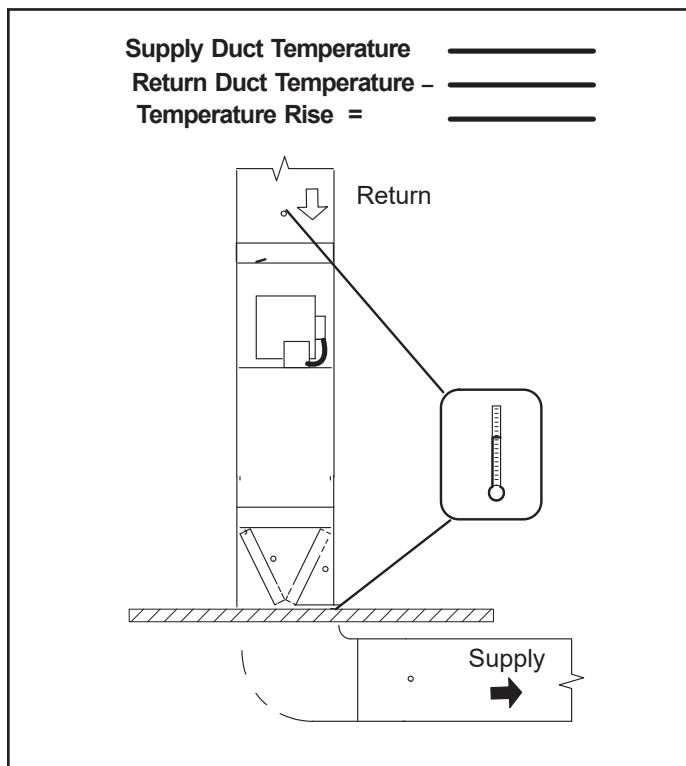

Figure 47. Temperature Rise
1. Tap locations shown in Figure 47.